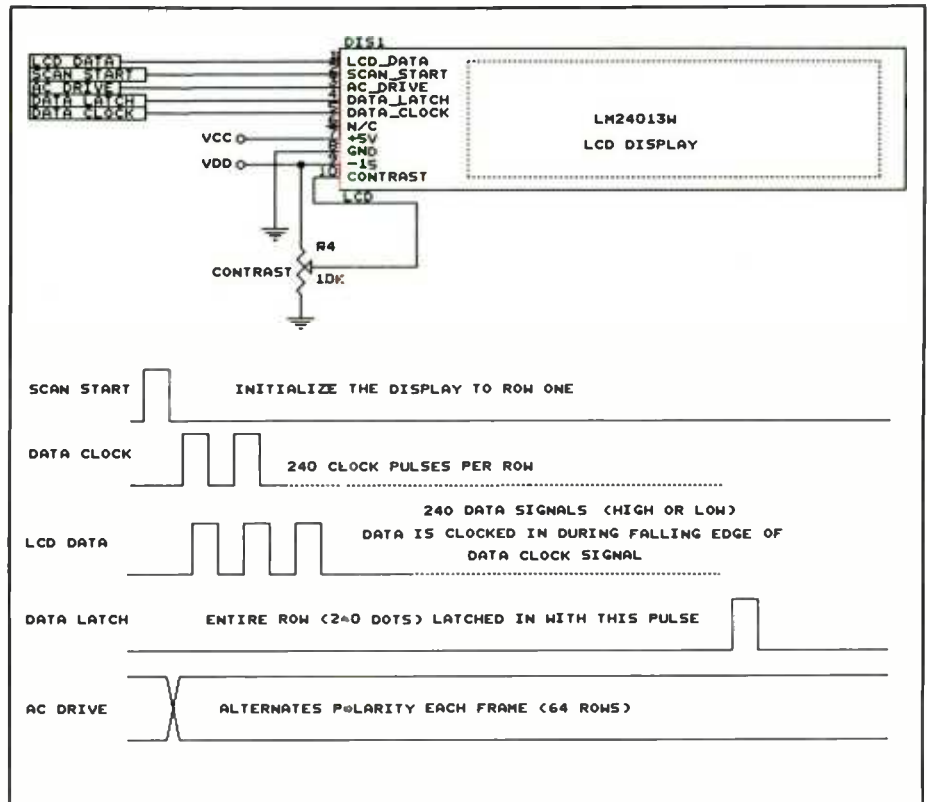

Fig. 1. Circuit details of the liquid-crystal display section.
- **Display:** The liquid-crystal display (LCD) panel used in this project consists of 15,360 dots or cells arranged in a 64 by 240-dot matrix. The dots are individually addressed to produce the display. The LCD display (see Fig. 1) is actually a very simple device. Five signals, produced by the microprocessor, control the entire process. The first step is to issue a SCAN START pulse. This signals the display that we are going to start at row one.